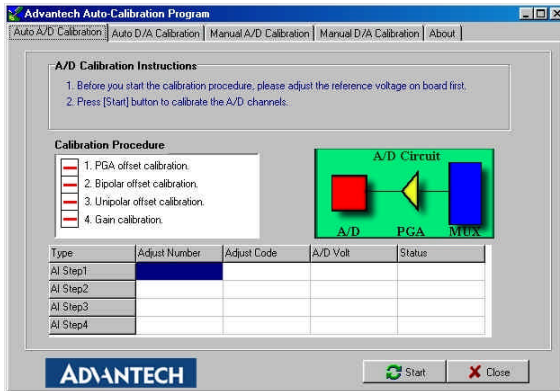

Fig. 5-4: Auto A/D Calibration Dialog Box
Step 4: Click the *Auto A/D Calibration* tab to show the A/D channel auto-calibration panel (Fig. 5-4). Press the start button to calibrate A/D channels automatically.